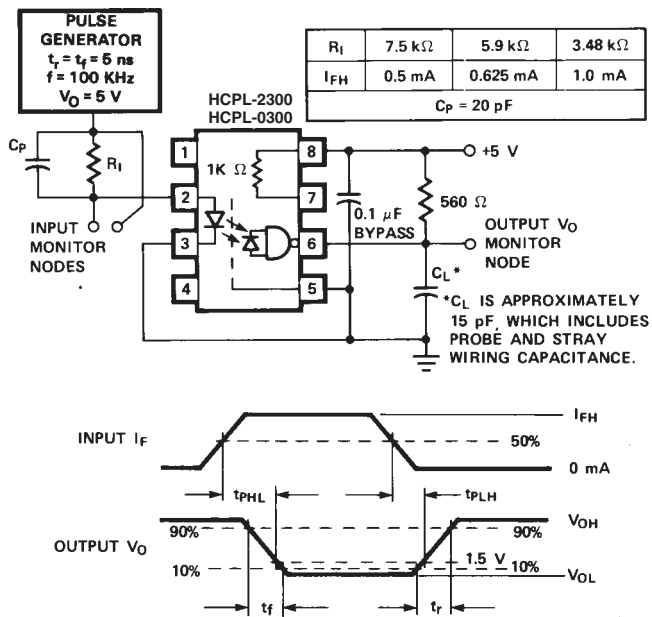

Figure 8. Test Circuit for t_{pHL} , t_{pLH} , t_r , and t_f .
- C_{P} is the peaking capacitance. Refer to test circuit in Figure 8.